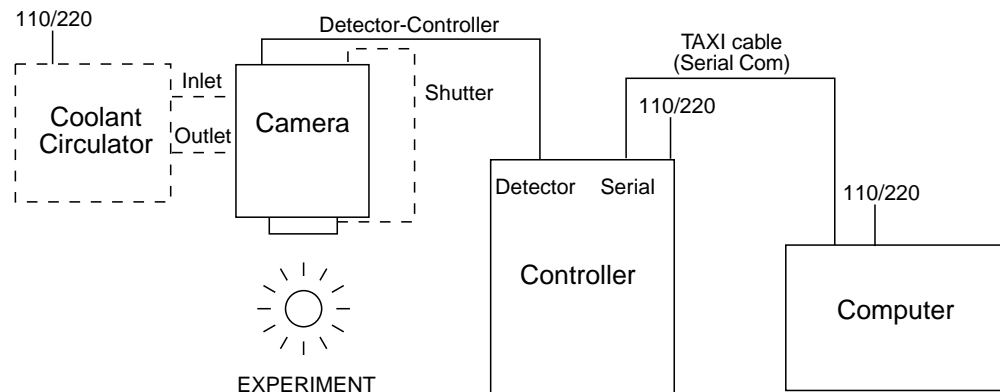

Figure 8. System, TE camera connection diagram
1. If the system cables haven't as yet been installed, connect them as follows (system power off). *See Figure 8.*